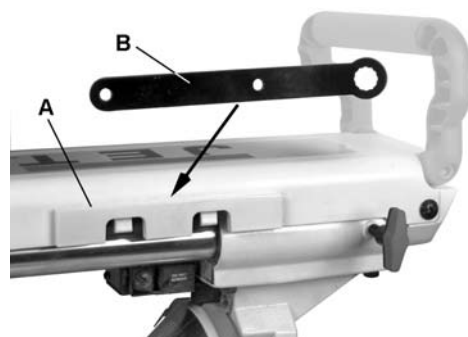

Figure 5
For convenience, a *storage clip* (A, Fig. 5) is located on the right side of the sliding carriage for storing the *blade wrench* (B).